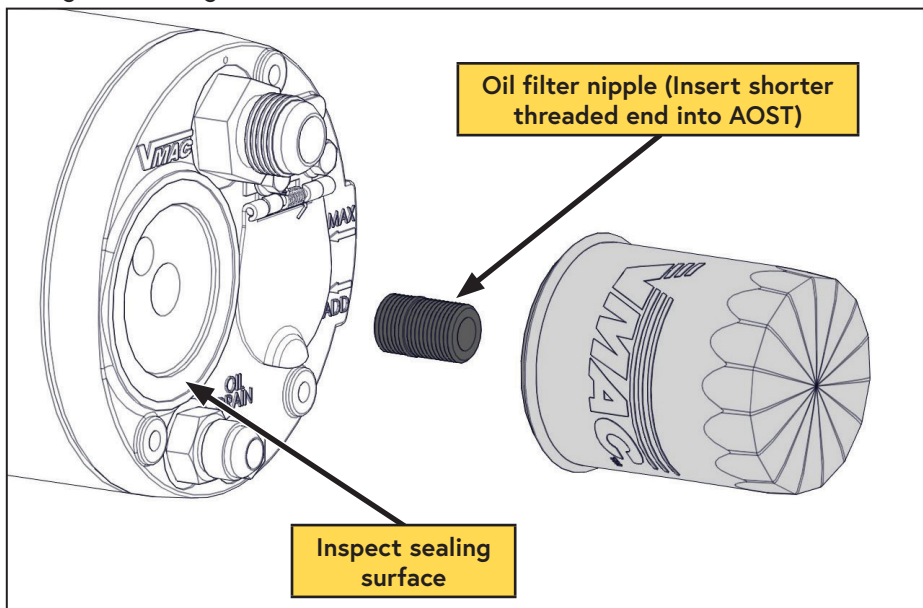

Figure 24 — Compressor oil filter
- ☐ *To reinstall the nipple, thoroughly clean the threads and apply Loctite 242 (blue) to the end with the short threads and replace it in the AOST (Figure 24).
- ☐ Clean the gasket sealing surface on the front of the AOST and inspect it for damage. The surface must be free of old gasket material and smooth to ensure a good seal (Figure 24).